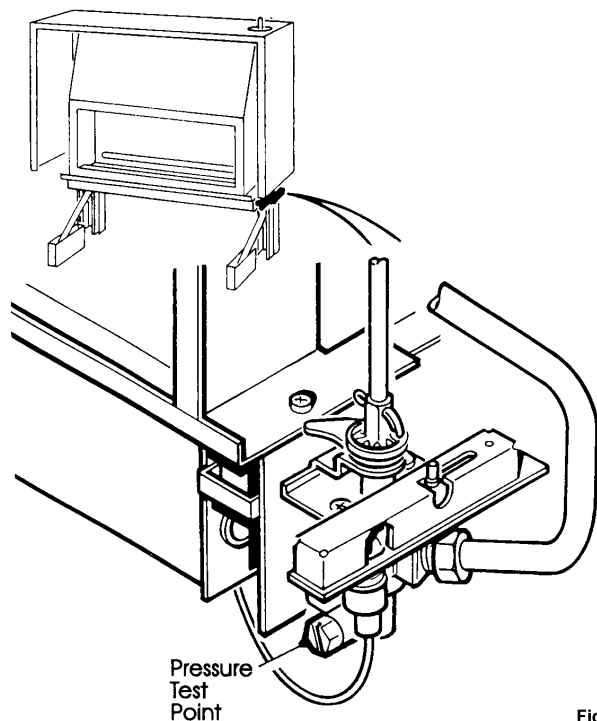

Fig. 15
- Remove the pressure test point screw and connect a pressure gauge. See Fig 15.